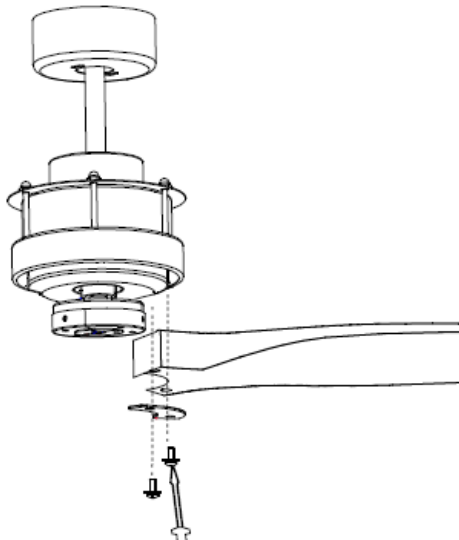

Fig. 8
- Insert the blade screws through the blade kit and blade then secure the blade to the motor by tightening the 2 screws. Fig.8